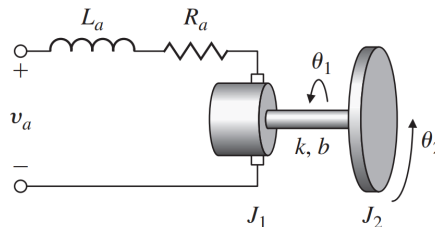

Figure 4: Motor with a flexible load
4. A very typical problem of electromechanical position control is an electric motor driving a load that has one dominant vibration mode. The problem arises in computer-disk-head control, reel-to-reel tape drives, and many other applications. A schematic diagram is sketched in Figure 4. The motor has an electrical constant (back-emf) K_e , a torque constant K_t , an armature inductance L_a , and a resistance R_a . The rotor has an inertia J_1 and a viscous friction B . The load has an inertia J_2 . The two inertias are connected by a shaft with a spring constant k and an equivalent viscous damping b . Write the equations of motion.